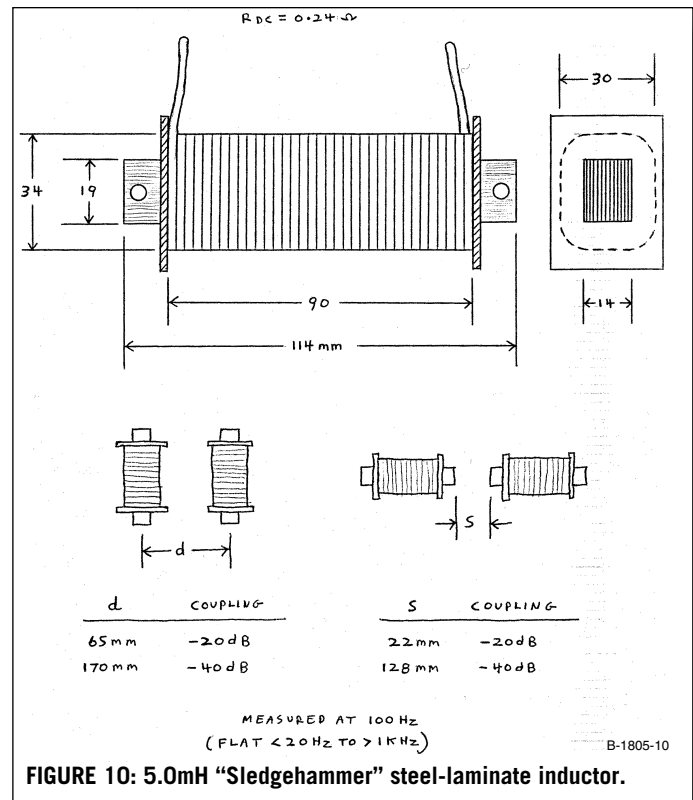

FIGURE 10: 5.0mH “Sledgehammer” steel-laminate inductor.
3. 5mH "Sledgehammer" steel-laminate coils (Fig. 10).
Figure 10 shows a 5.0mH “Sledgehammer” steel-laminate inductor from Madisound, and the (worst-case) parallel-aligned orientation spacings required for couplings of -20dB and -40dB.